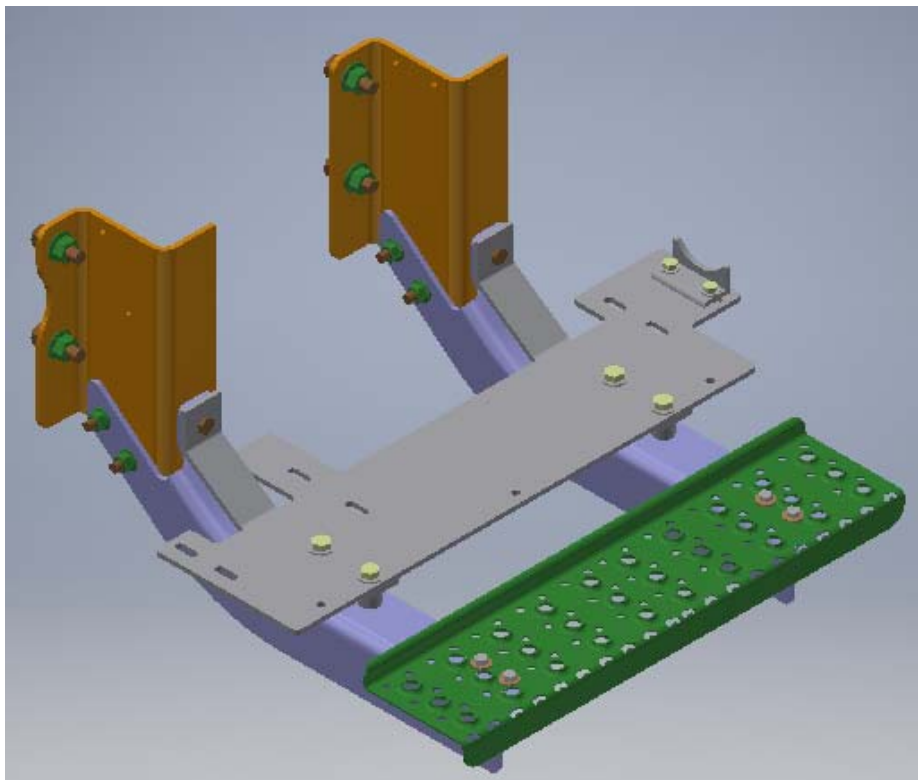

Figure 5: Brake Support Bracket
9. Install the Brake Pump Support (R-20453) Bracket using the supplied 3/8" x 1 1/4" bolts and associated hardware. (Figure 5)